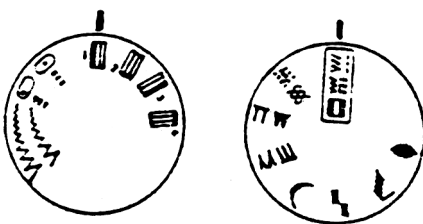

Fig. 20c
- Set control knob to "buttonhole seam" symbol No. 1 (fig. 20c).